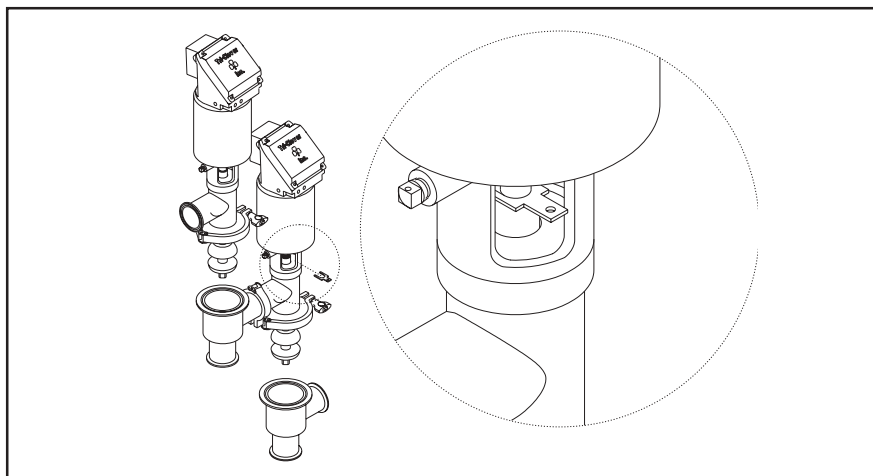

Figure 4: 762-227 Gauge Placement
- G. Divert Valve - Remove the lower body from the valve. Turn the selector switch to the "Inspect" position. (After time delay, valve will switch position.) Unscrew the valve stem off the actuator stem enough to insert the gap gauge between the two stems. Tighten the valve stem onto the gauge as shown in Figure 4.
- H. Slide the gauge (stored inside control housing) onto the stem connected to the actuator. Reassemble the two stems together without the o-ring and tighten the nut to secure the gauge between the two stems. See Figure 4.